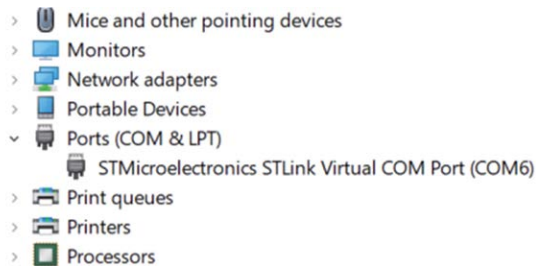

Figure 11.4: Assigned serial port number.
- Click to expand **Ports (COM & LPT)** and check the **STMicroelectronics STLink Virtual COM Port** number. As an example, in Figure 11.4 the port number was **COM6**.